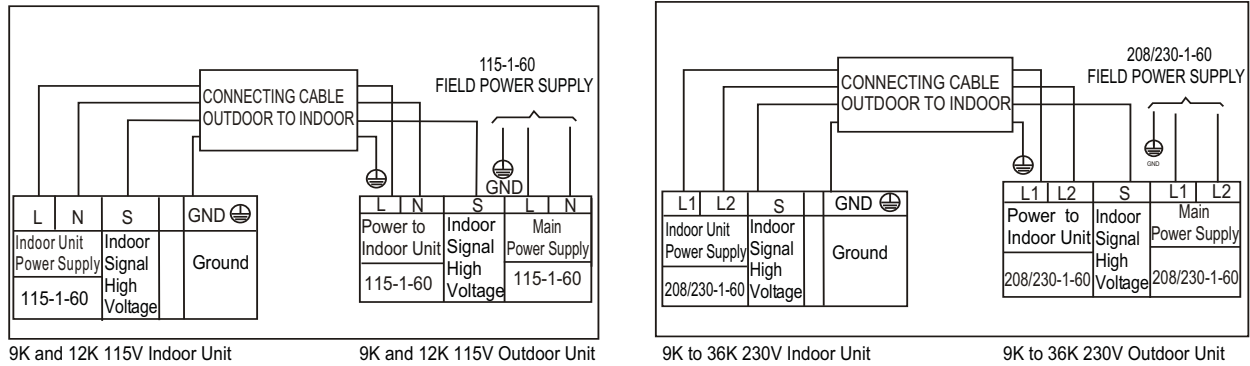

Fig. 10 – Connection Diagrams
8. Connect the wiring from the outdoor unit per the connection diagram (see Fig. 10 and Fig. 12).